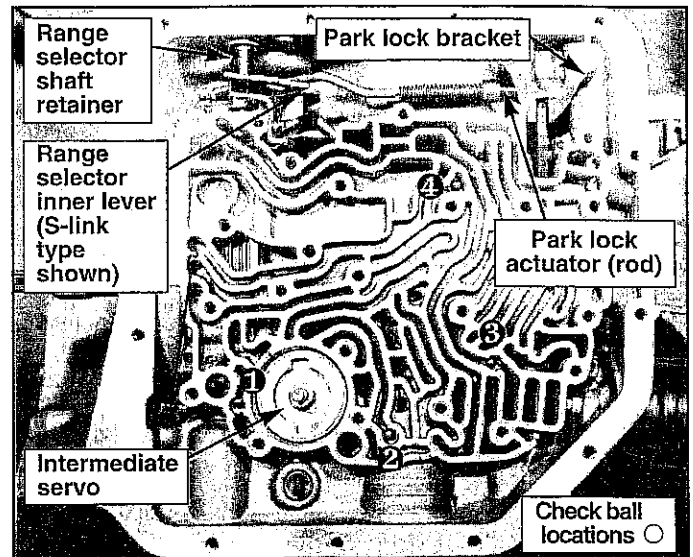

FIGURE 4
STEP 5. Remove seven spacer support plate bolts and spacer support plate. Set them in oil pan. Remove stock separator plate and gasket and discard the gasket. Remove four check balls from case and set them with the valve body. (See Fig. 4)
STEP 6. Remove the intermediate servo assembly by grasping the intermediate servo piston apply rod and pulling the entire assembly from the case. (See Fig. 4) You will remove: Rod, piston, washer, spring retainer and spring. Put these parts in the oil pan so they won't get lost. Remove and discard piston seal ring if it is metal. **Do not remove Teflon seal ring.** (See Fig. 53)
STEP 10. Remove park lock bracket bolts and bracket. (See Fig. 4) Remove range selector shaft retainer (clip). Loosen and remove shaft nut. Slide shaft out of case. Remove range selector inner lever and park lock actuator (rod). (Note: If shaft does not slide out of case freely, use a file to deburr the shaft. **Do not hammer the shaft out and damage the bore.**)